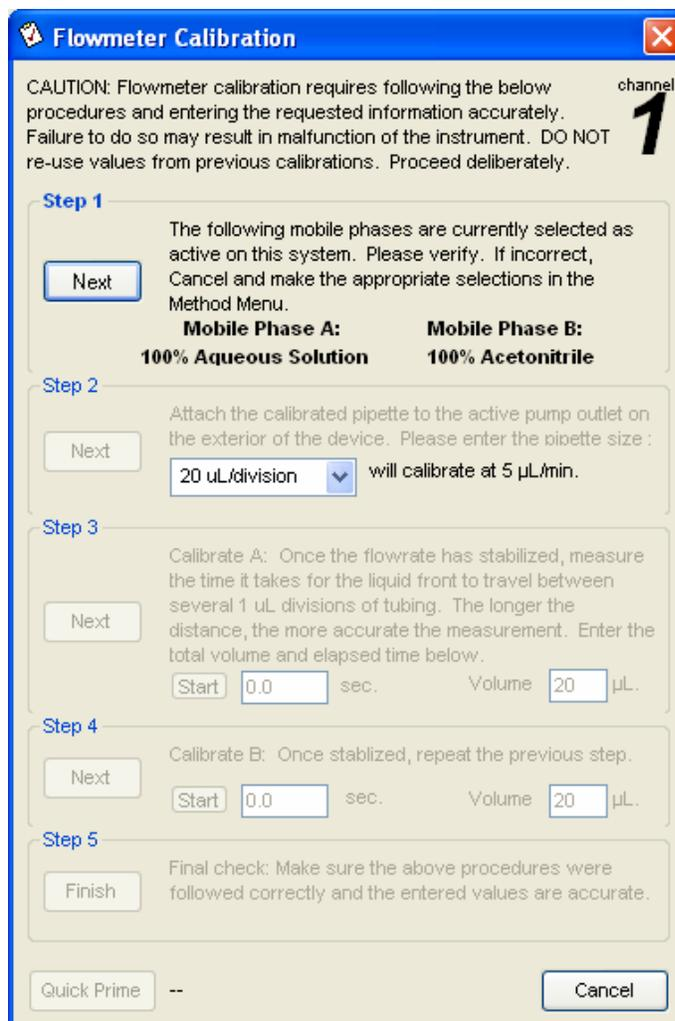

Figure 4-8. Flow Calibration Window
- step 4* Click **Next** to start the flow in channel A. Enter the appropriate volume requested in step 3 of the **Flow Calibration Window** dialog (Fig. 4-8). Wait until the liquid front travels to the black line mark on the pipette and press **Start** to begin timing. For Channel 1, time how long it takes for the liquid front to travel 20 μL . For Channel 2, time how long it takes for the liquid front to travel 2 μL . Press **Stop** when the fluid front reaches the end of the pipette, or the appropriate mark. Then click **Next**. If necessary disconnect the calibration assembly and dry out the liquid inside the capillary.